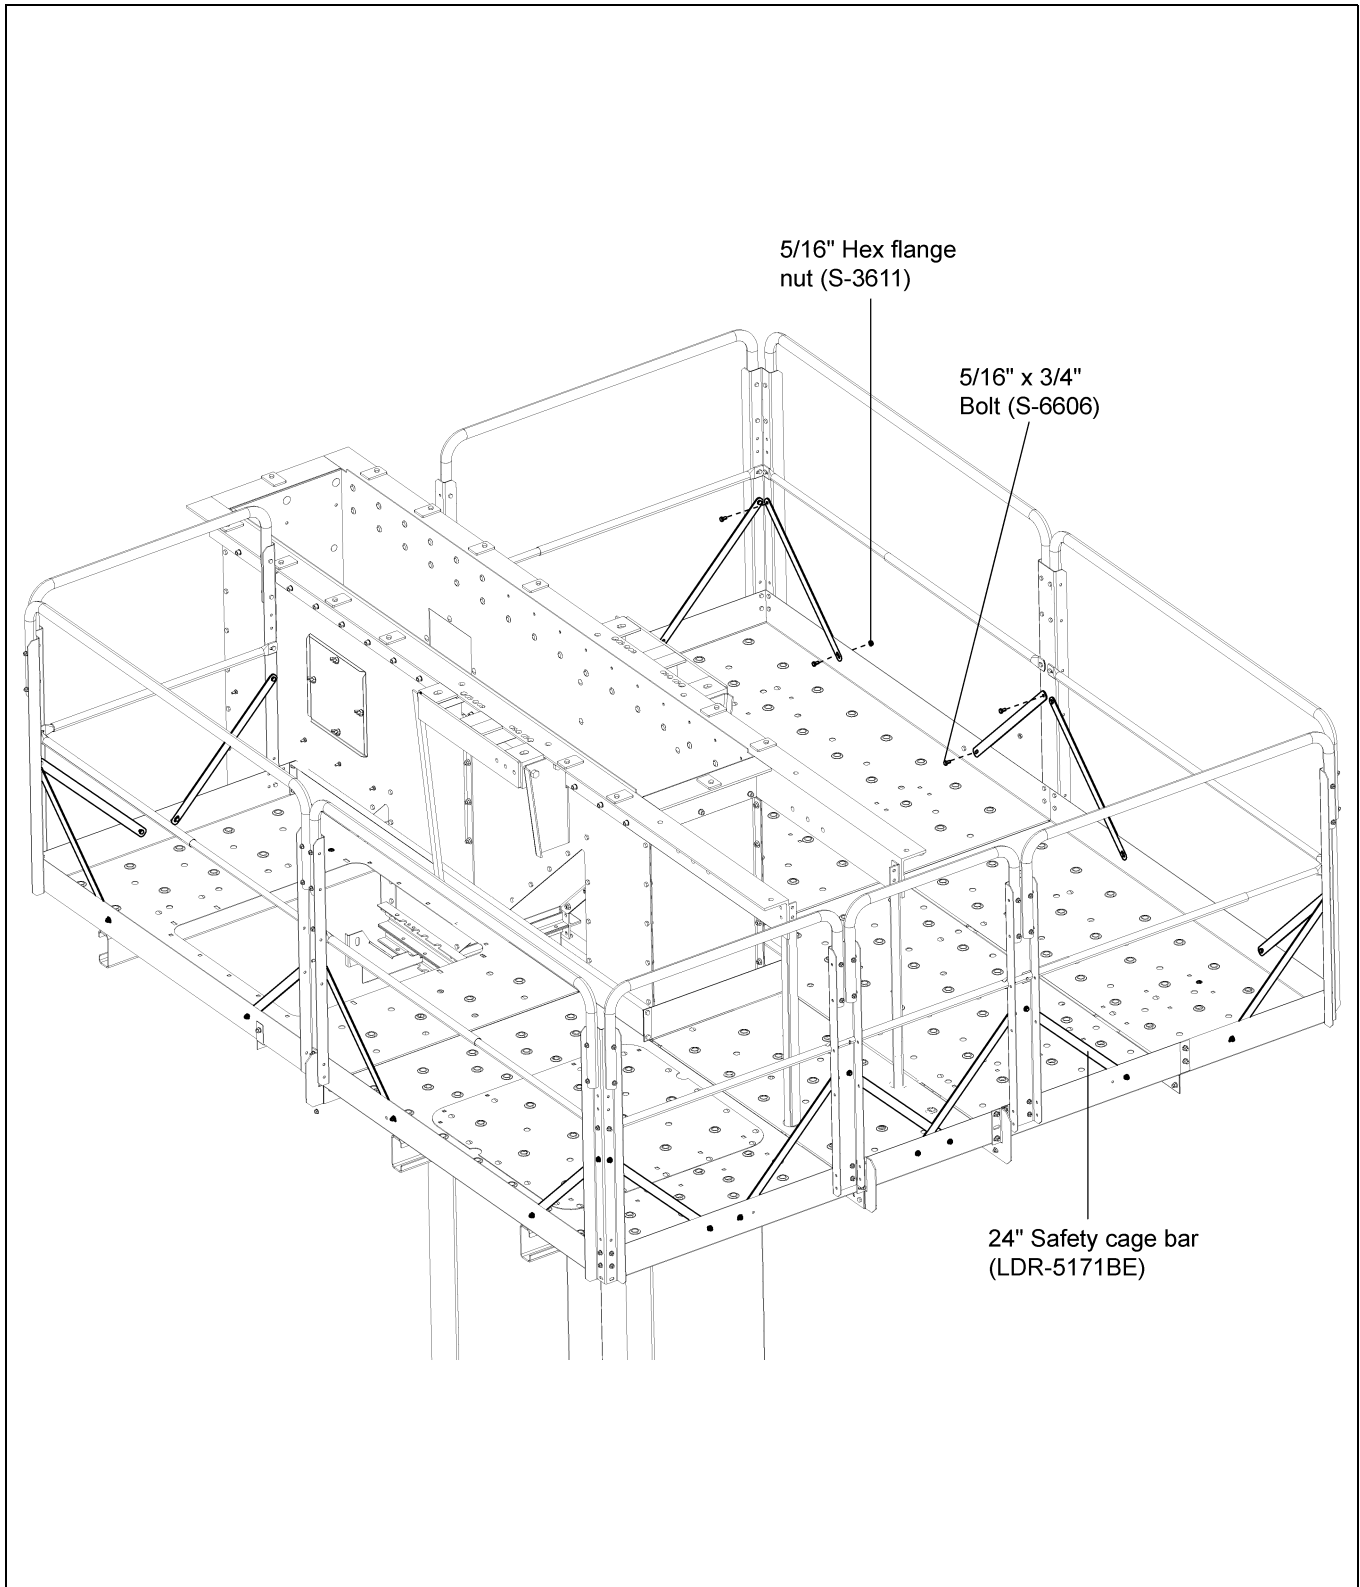

Figure 10L
1. Attach safety cage bar - 24" (LDR-5171BE) from handrail post to decking kick plates using 5/16" x 3/4" bolts and nuts. (See Figure 10L.)